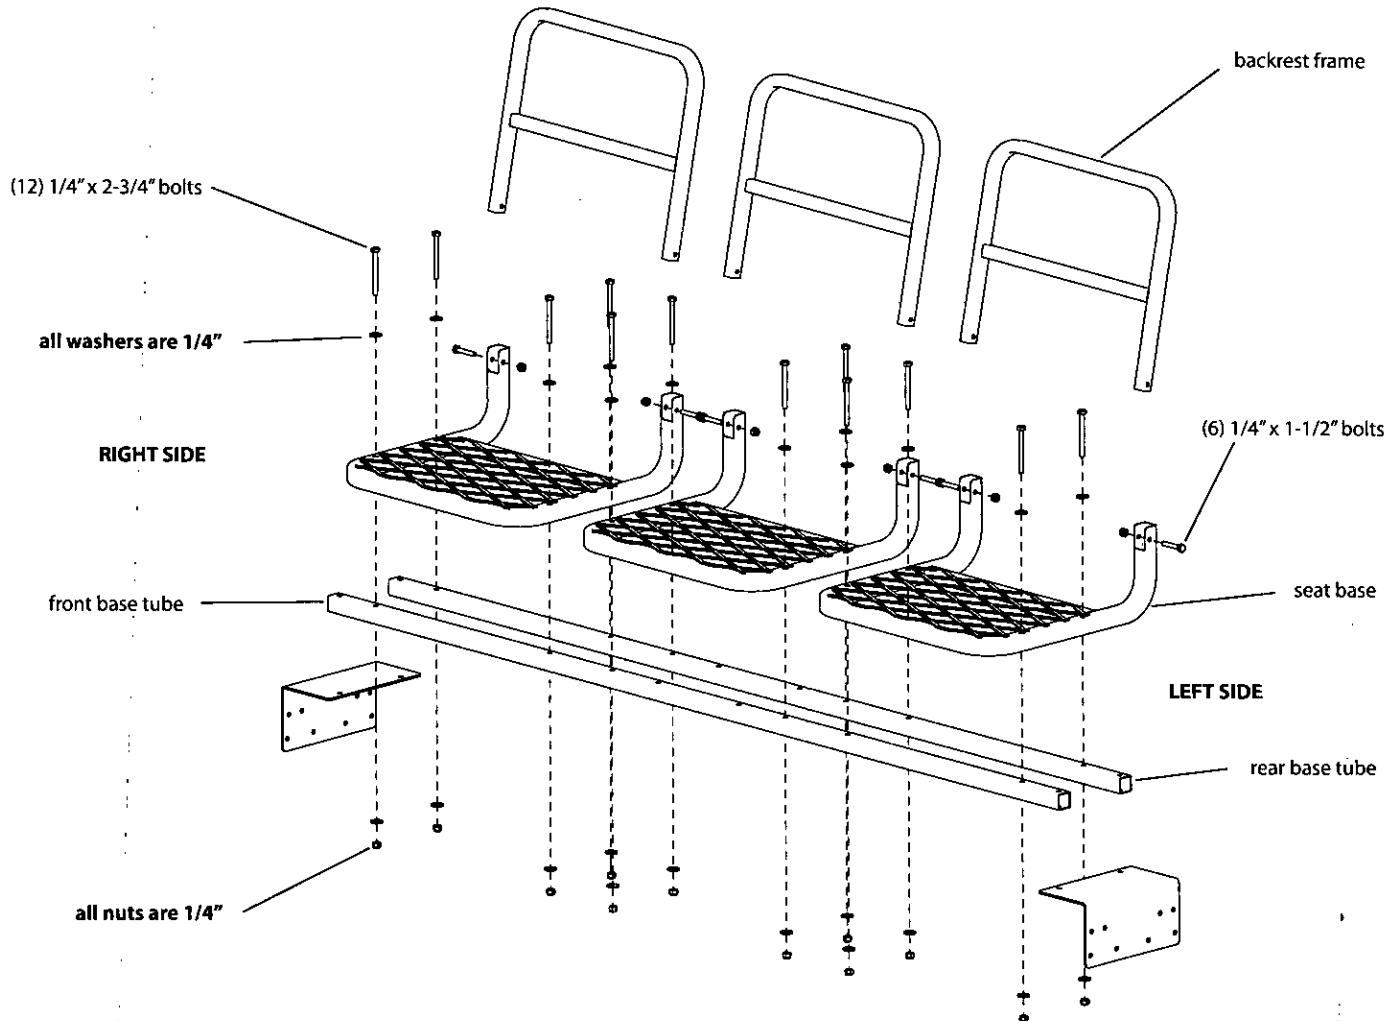

Figure 5B
4. Attach (3) seat bases to top of base tubes using (12) provided 1/4-20 x 2-3/4" bolts, nyloc nuts and (24) washers. **SEE FIGURE 5B.**
5. Attach backrest frame to each seat base using (6) provided 1/4-20 x 1-1/2" bolts and nyloc nuts. **SEE FIGURE 5B. You may now tighten all nut & bolt assemblies. Be sure not to over tighten or crush tubing when tightening!**
6. Attach (3) removable seat cushions (68162) to the top of seat bases and snap the side release buckles together. Pull straps tight so seat is not loose.
7. Attach (3) removable backrest cushions (68163) to the backrest frames and secure with Velcro.